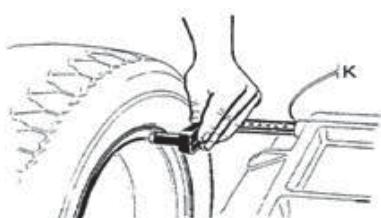

Fig.1
- Move gauge to touch edge of rim (Fig.1), read the value of distance, press and and to change, set “a” value.